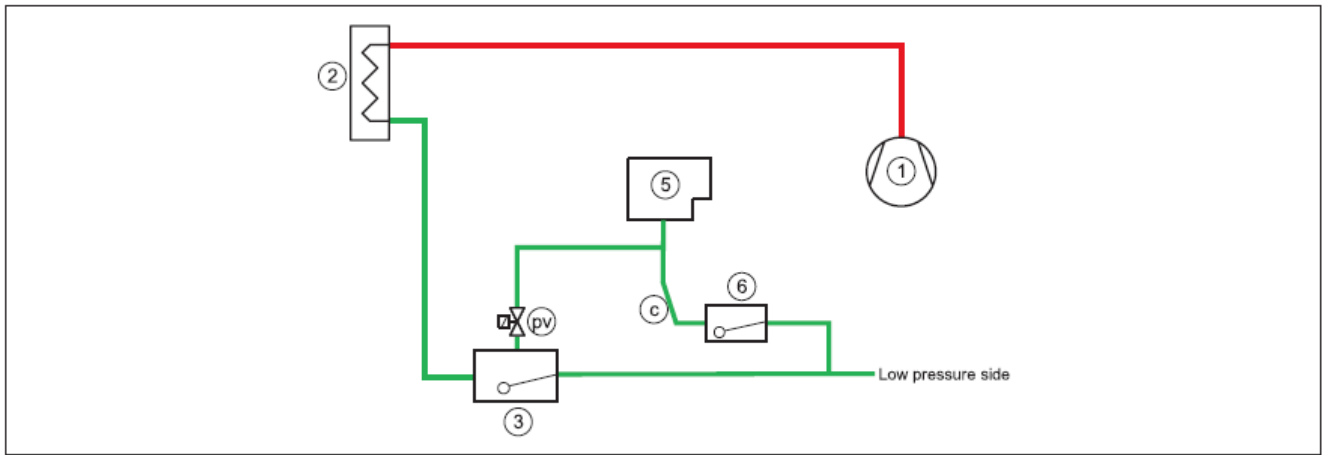

Fig. 8 Purger connections (pv). Drain Piping (c) must be vertical/downward slope
- For systems with a high-pressure liquid level control, the air will collect in the float valve (3). (See Fig. 8).
- The compressor (1) supplies high-pressure gas to the condenser (2), where it is condensed.
- The float valve (3) will flash any liquid back to the LP side. The air purger (5) must be connected to the float valve through a solenoid valve (pv).